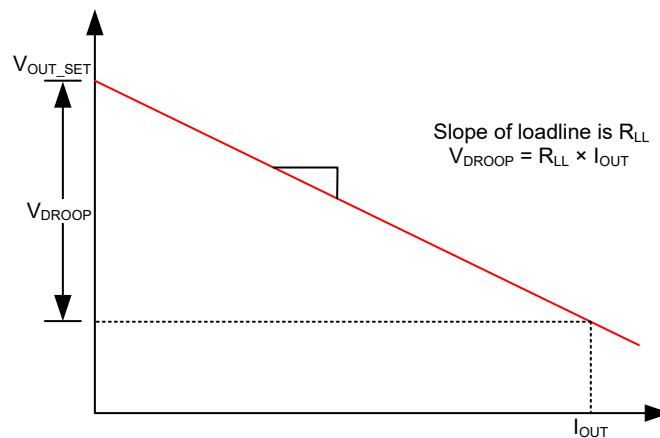

Figure 7-5. Load-Line Regulation
- R_{LL} is the load line characteristic (as shown in Figure 7-5)